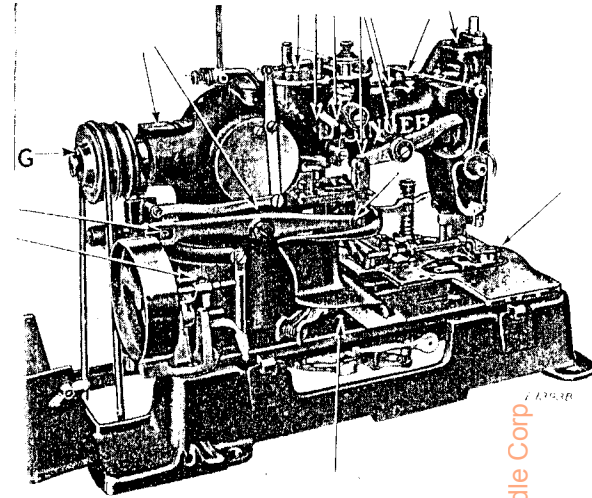
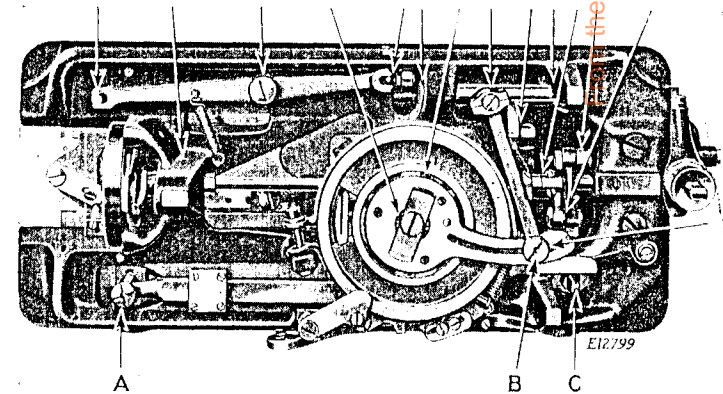

Fig. 17. Oiling Points at the Left of the Machine
Fig. 18. Oiling Points in the Base of the Machine
The distance between the stitches is regulated by the thumb nut (B, Fig. 18) which holds the end of the driving lever pitman in the slotted lever underneath the bed of the machine. To increase the distance between the stitches, loosen the thumb nut (B) and move it to the left. To decrease the distance between the stitches, move the thumb nut to the right. When the desired distance between the stitches has been obtained, tighten the thumb nut.
When the knife descends to cut the buttonhole it must enter exactly in the centre of the slit in the needle plate. In case the knife does not enter in the centre of the slit, loosen the thumb screw (A, Fig. 18) under the bed of the machine and move the needle plate until the knife is in the centre of the slit, then tighten the thumb screw.
To reach the parts underneath the bed, loosen the wing nut at the bottom and back of the linged splash guard, turn the guard back, throw the belt off the pulley of the machine and turn the machine back on its hinges. The points to be oiled are shown in Fig. 18. Oil the shuttle bearing twice daily, see Fig. 20. Remove the screw (G, Fig. 17) and apply a small quantity of Ball Bearing Lubricant to the ball bearing of the pulley through the tapped hole, then replace the screw (G). Use **"BALL BEARING LUBRICANT,"** sold by Singer Sewing Machine Company.